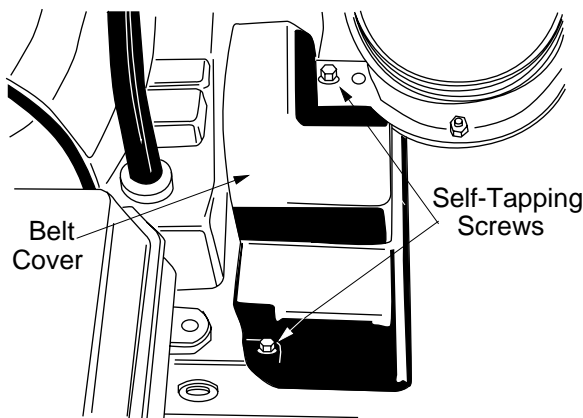

Figure 25
1. Remove the plastic belt cover on the front of the engine by removing the two self-tapping screws. See Figure 25.